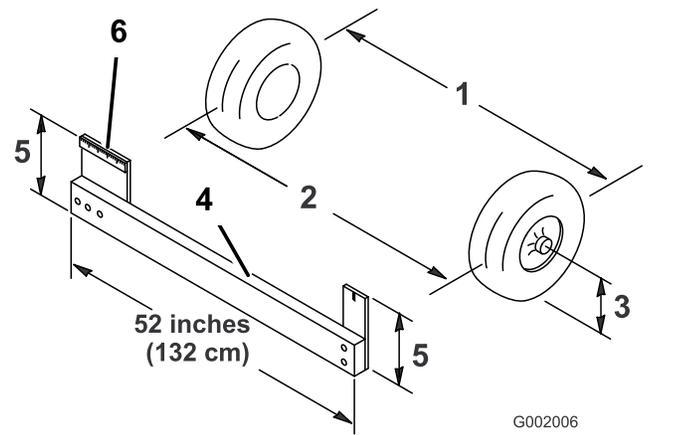

Figure 50
- Measure the distance between both the front tires at the axle height at both the front and rear of the front tires (Figure 50).
Note: You will need a fixture or alignment gauge for measuring the rear of the front tires at axle height. Use the same fixture or alignment gauge to accurately measure the front of the front tires at axle height (Figure 50).